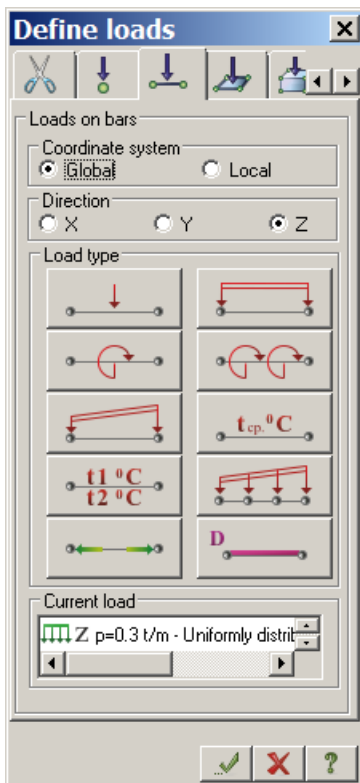

Figure 19.19 Define loads dialog box
*To define loads on nodes and elements, on the **Create and edit** ribbon tab, select the **Loads** panel and click appropriate command from the **Loads on nodes and elements** drop-down list. In the **Define loads** dialog box (see Fig. 19.19) specify appropriate data.*
- ⇒ In the **Define loads** dialog box (see Fig.19.19), specify **Global** coordinate system and direction along the **Z-axis** (default parameters).